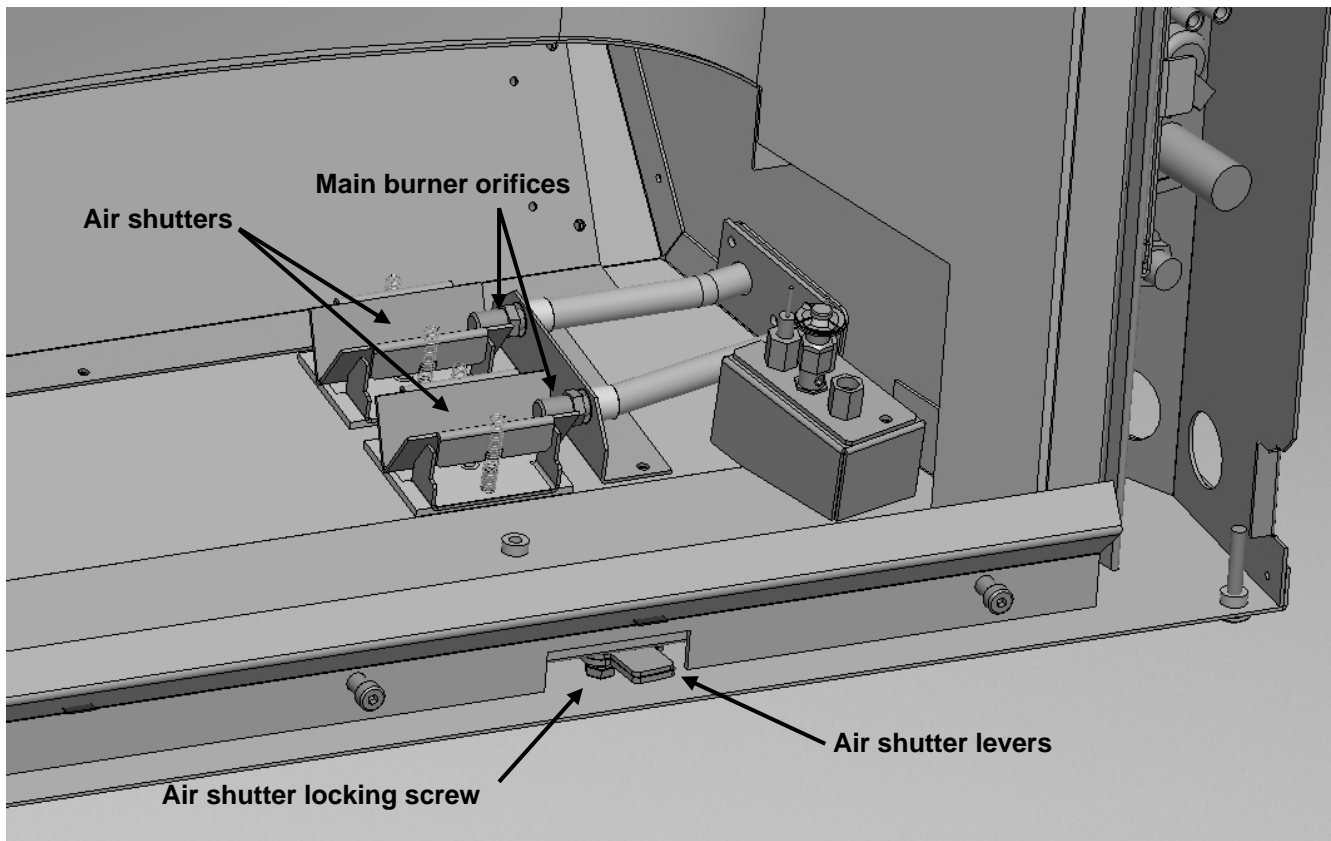

Figure 1
5. Place the air shutter back in their original cradle. Ensure you carefully align the springs onto the slots on the air shutters. Loosen (but do not remove) the screw that locks the air shutters in place. Adjust the air shutters to a preliminary fully opened position (for LP) by sliding the air shutter levers all the way to the right. Moving the levers to the right will open the air shutters. Moving them to left will close the air shutters. When the shutters are in the desired initial position tighten the locking nuts finger tight. See *Figure 1* below.